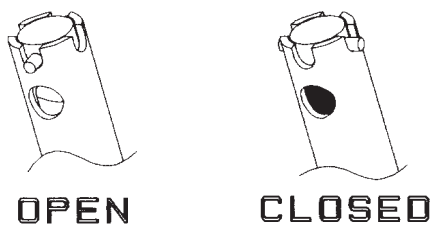

Figure 6-4
a. “OPEN” - This position must be used whenever product is being dispensed. (See figure 6-4. When OPEN you can see clear through the hole in the top of mix feed tube.)
b. “CLOSED” - This position should be used when the freezer is in the “NIGHT” mode, and when product will not be dispensed for a long period of time. (See figure 6-4. When CLOSED you cannot see through the hole in the top of the mix feed tube — the white plastic regulator tube inside will block the hole.)